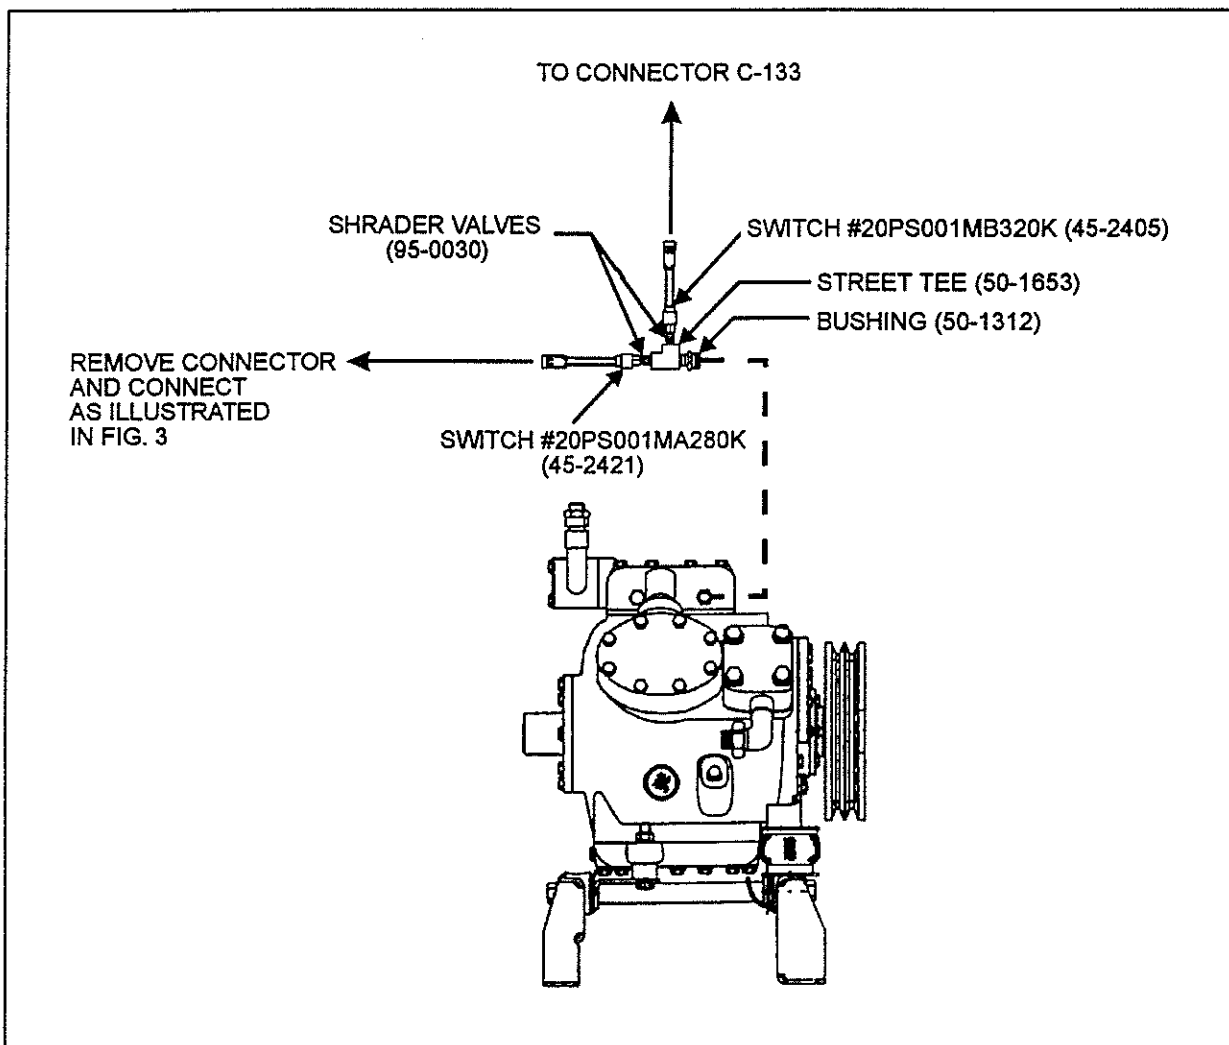

Fig. 2 - Pressure Switch Installation (Pressure side)
4. Remove and discard the high pressure switch, bushing and elbow from compressor head. Install a bushing (#50-1312), a street tee (#50-1653), then two "Schrader" valves (#95-0030) as illustrated in figure 2.
5. Install both high pressure switches (#45-2405 & 45-2421) on "Schrader" valves as illustrated in figure 2.